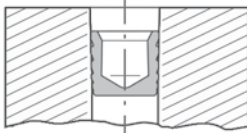

Fig. 3
- / Installed LP-plug (Fig. 3).